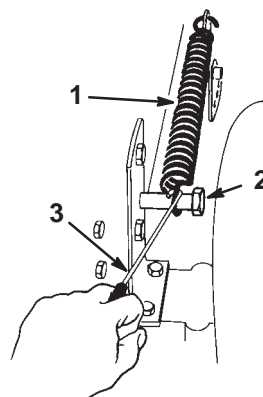

Figure 32
9. Remove the height-of-cut lift assist spring from the retaining bolt (Fig. 32), using the spring tool provided with the tractor.